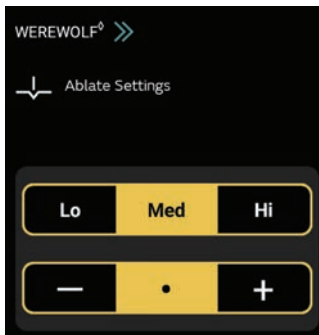

Figure 43. WEREWOLF Ablate Settings
1. Tap the **Tower** icon on the navigation bar (Figure 43).
3. To select the WEREWOLF medical device view, tap on the >> arrows at the top (Figure 43).